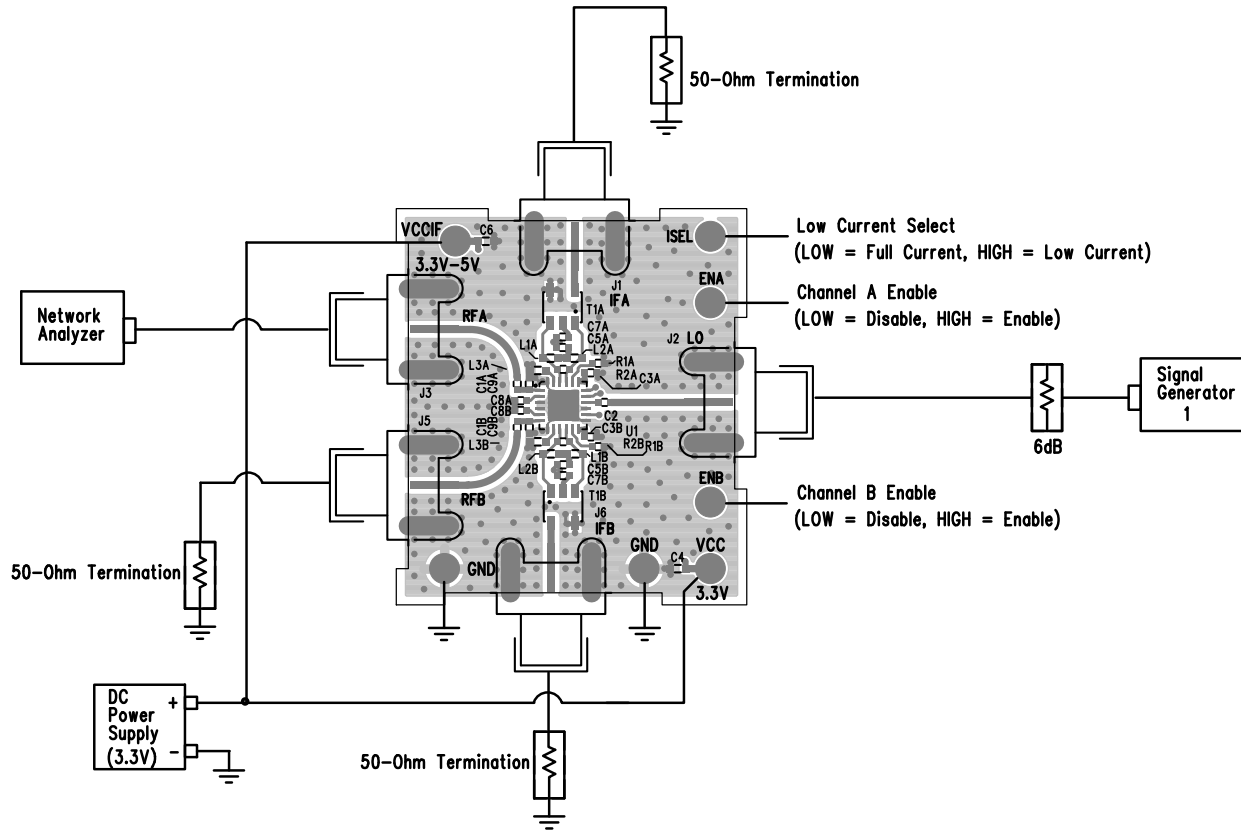
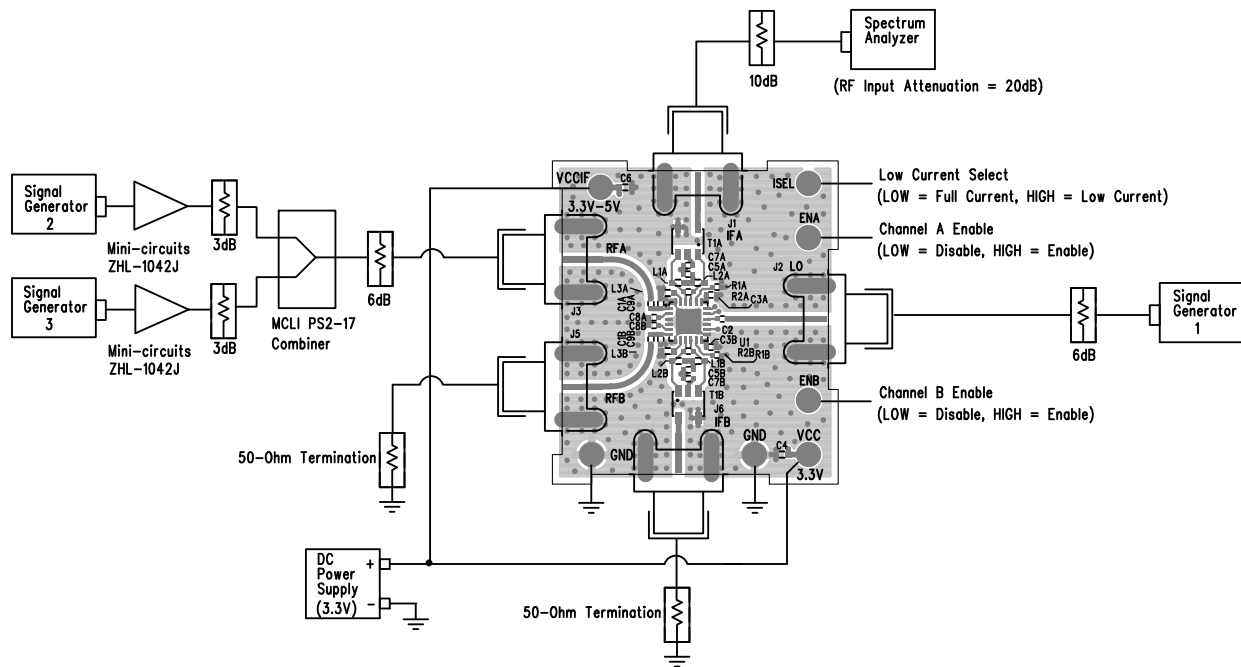

Figure 5. Proper Equipment Setup for Return Loss Measurements
Figure 6. Proper Equipment Setup for RF Performance Measurements
The LTC5591 is a dual high dynamic range downconverting mixer IC with very high input 3rd order intercept. Accuracy of its performance measurement is highly dependent on equipment setup and measurement technique. The recommended measurement setups are presented in Figure 5, Figure 6, and Figure 7. The following precautions should be observed:
The LTC5591 consists of high linearity passive double-balanced mixer cores and IF buffer amplifiers. Due to the bi-directional nature of all passive mixers the $\text{LO} \pm \text{IF}$ mixing products, also referred to as pseudo-image spurs, are always present at the RF input, typically at a level 12dB below the RF input signal. Mismatched impedances at the pseudo-image spur frequencies, such as when filters are used for SSB NF measurements, can significantly impact the linearity and noise figure measurements. To avoid interference from the pseudo-image spurs, terminate the RF input port with an isolator, diplexer, or attenuator. In the recommended measurement setups presented in Figure 6 and Figure 7, the 6dB attenuator pad at the demonstration circuit's RF input serves this purpose.
Demonstration circuit 1710A-B is easy to set up to evaluate the performance of the LTC5591. Refer to Figure 5, Figure 6, and Figure 7 for proper equipment connections. The following procedures describe performing measurements on Mixer Channel A. The measurement procedures for Mixer Channel B are identical.
3. Connect all test equipment as shown in Figure 5 with the signal generator and the DC power supply turned off.
1. Connect all test equipment as shown in Figure 6 with the signal generators and the DC power supply turned off.